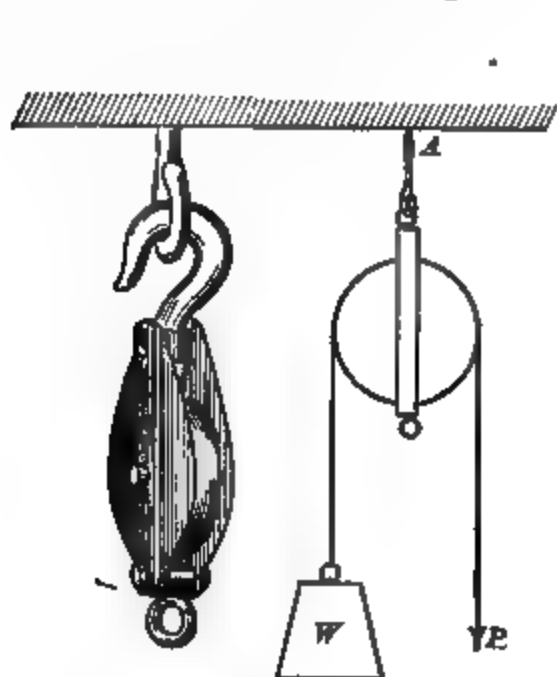

FIG. 24. — Fixed pulley.
28. The pulley. The **fixed pulley**, shown in figure 24, consists of a wheel with a grooved rim, called a **sheave**, free to rotate on an axle which is supported in a fixed block. A flexible rope or cable passes over the wheel. It is evident